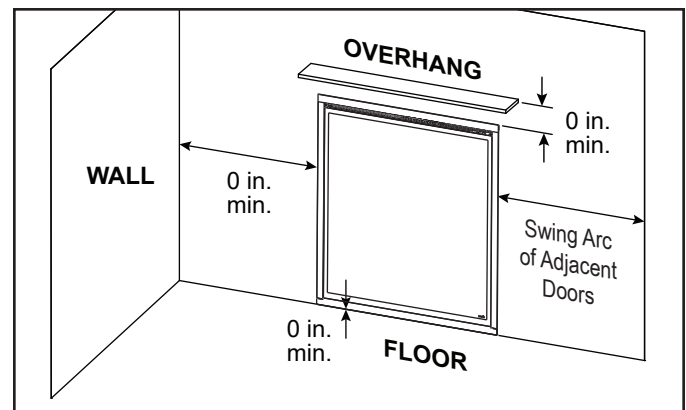

Figure 3.1 Location and Clearance Requirements
- See Figures 3.1, 3.2, and 3.3 to determine location of appliance installation.
See Figures 3.1, 3.2, and 3.3 for illustrated diagrams of the required clearance minimums.